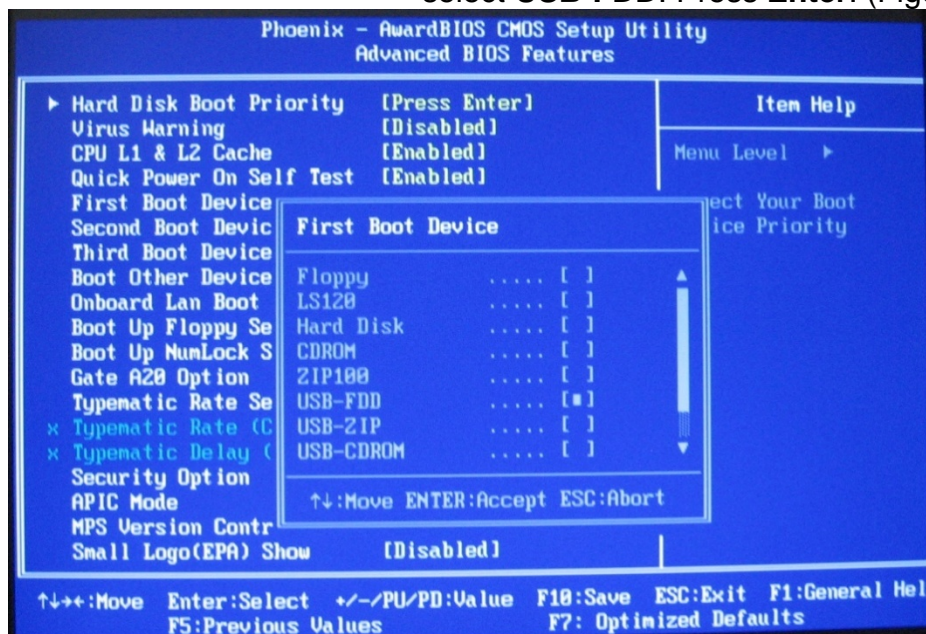

Figure 7-16 First Boot Device Popup
6. On the **First Boot Device Popup** that appears select **USB-FDD**. Press **Enter**. (Figure 7-16).